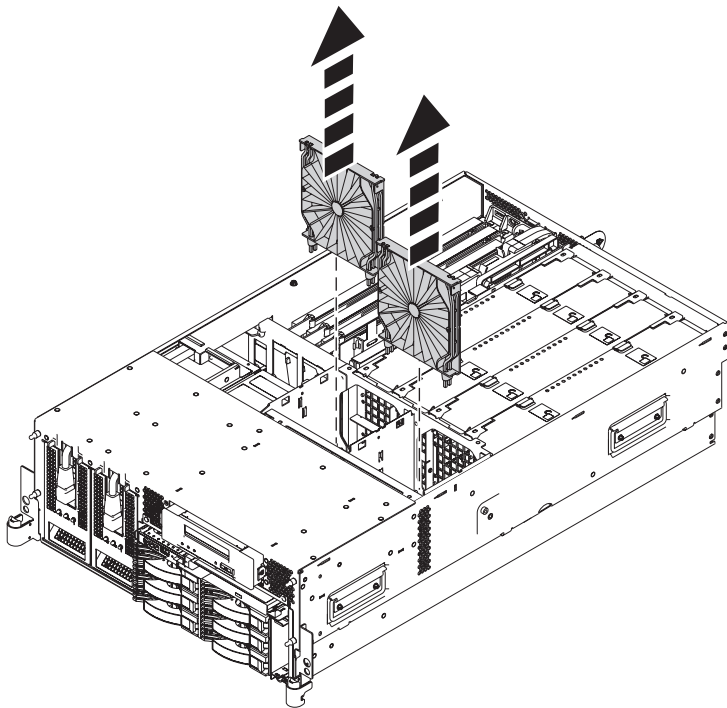

Figure 8. Removing the air baffles from the 8204-E8A or 9409-M50 fan cage
- 2) To remove the air baffles, grasp and pull the air baffle out of the fan cage, as shown in Figure 8.